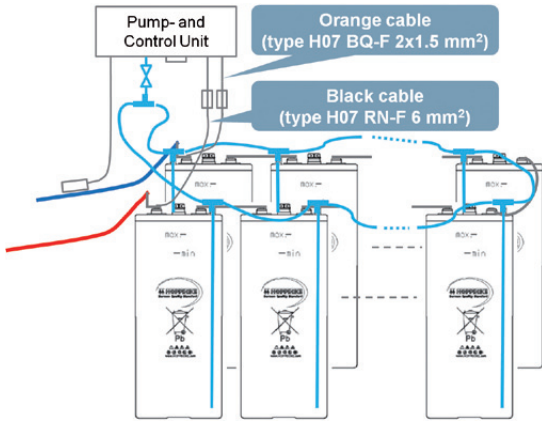

Figure 20: Power supply connection
2. Check the remaining distance between the end of the power supply connection cable (which will be attached to the pump- and control unit) and the battery connection terminal. For this distance two cords of the provided (black, 6mm², type: H07 RN-F) connection cables are needed (refer to Figure 20 and Figure 24).